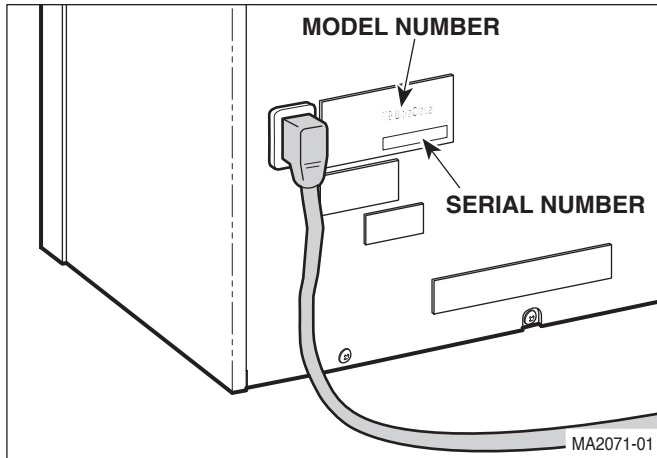

Figure 1-2. Model Number / Serial Number Location
- Refer to Figure 1-2 to determine the location of the model number and serial number of the sterilizer and record this data. There are different letter prefixes which proceed the serial number, depending on the configuration of the unit. These prefixes are very important and are needed to order the proper parts.